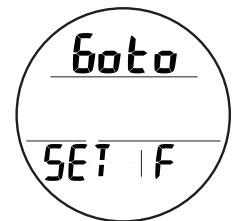

Fig. 46 - SET F LEAD-IN
**Set F Lead-in**, information includes (Fig. 46):